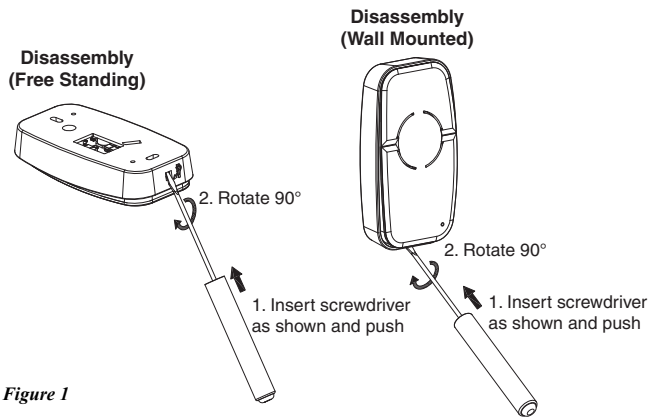

Figure 1
- a. Insert a small slotted screw driver in one of the slots indicated in Figure 1.